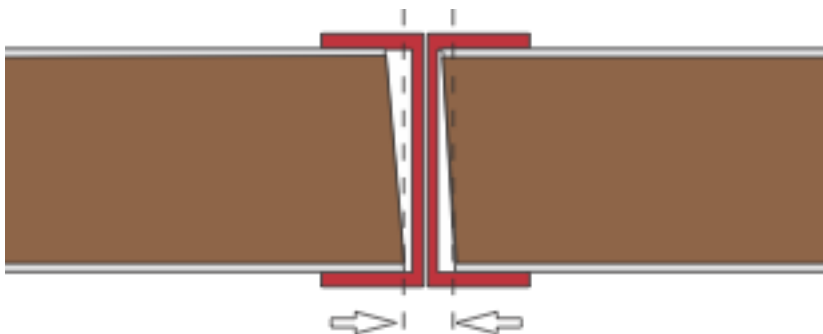

Figure 6.2: Representation of butt error distance
- A. Errors in measuring section lengths and butt error distance (see figure 6.2).